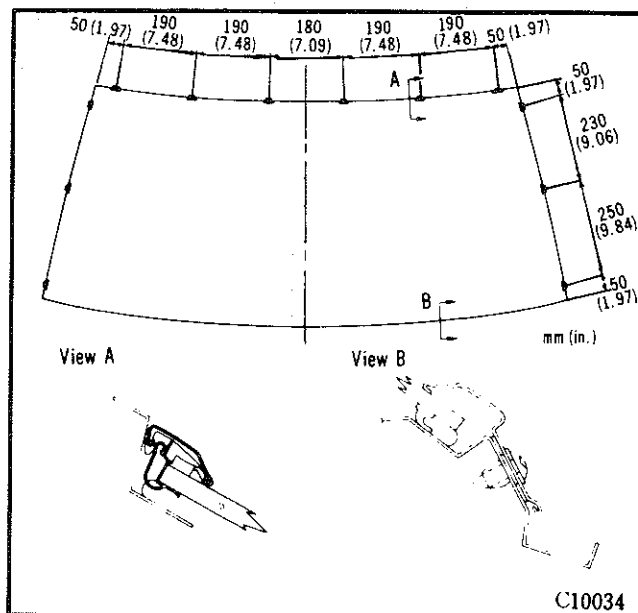

Fig. 11—Attachment clip position
- (1) Install the moulding retaining clips as shown in Fig. 11.
- (2) Install the lower moulding with the self-tapping screws.
- (3) Install the side and upper mouldings in that order, then proceed as detailed in windscreen installation.